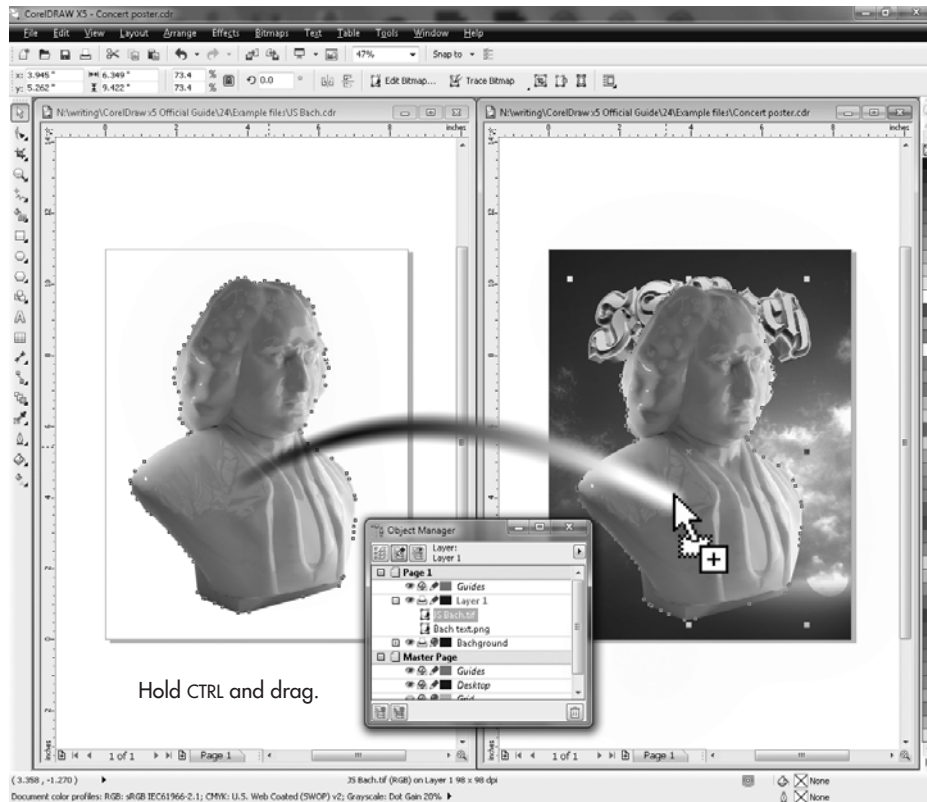

FIGURE 24-5 Duplicate your work into the Concert poster.cdr window.
2. Hold CTRL and then drag your trimmed bust of Bach into the Concert poster window, as shown in Figure 24-5. This duplicates your work; it doesn't move it. You can save and then close your Bach image as a CDR file now.